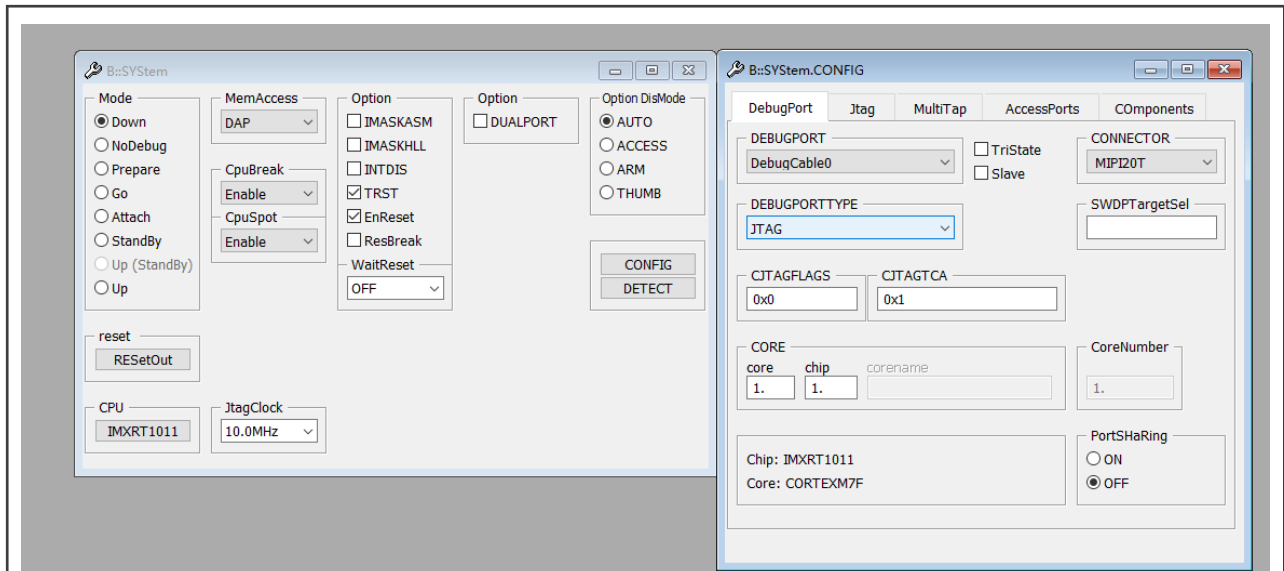

Figure 6. Setting debug port type to JTAG
2. Set debug port type to **JTAG**, as shown in Figure 6 (Here uses JTAG as an example and by default, SWD is used).